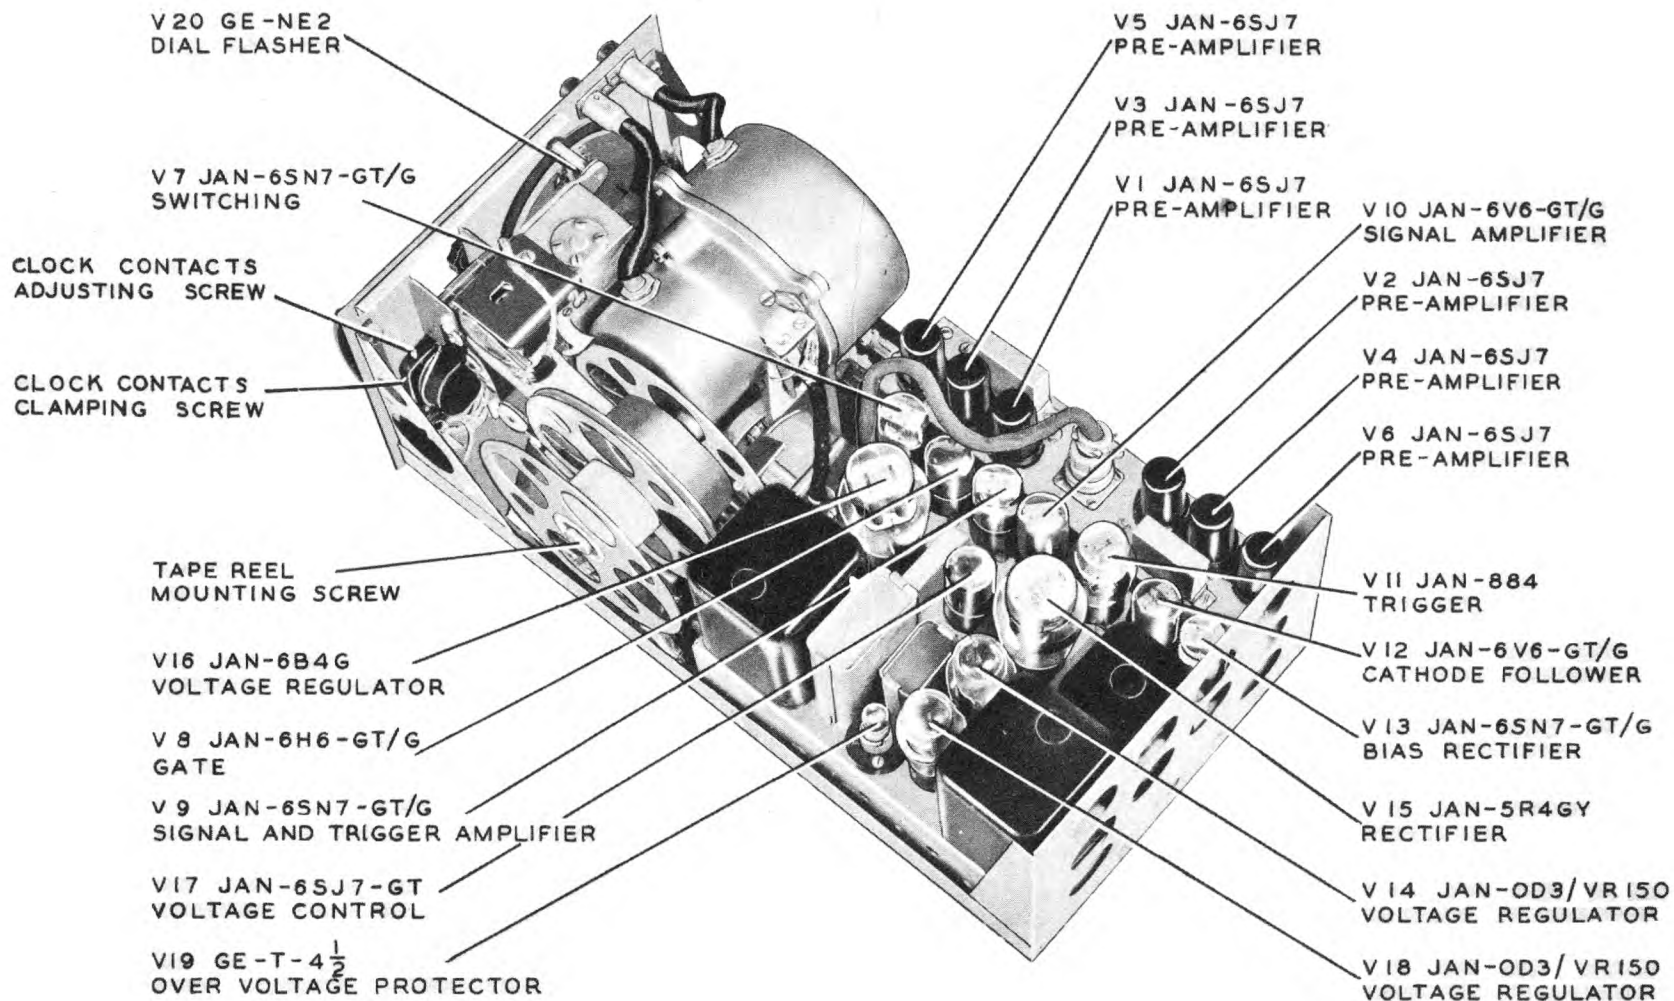

Figure 5-1. Radar Receiver R-34/APR-2—Top View with Dust Cover Removed
(1) Faulty cable connection between tuner and preamplifier. (See figs. 5-1, 5-2, and 5-3.)
(2) Microphonic tubes in that particular preamplifier channel.
(See figures 5-1 to 5-4.)
c. Loosen the clamping screw on the right side of the clock (accessible behind the panel, see fig. 5-1).
d. Turn the adjusting screw on top of the clock until a mark is made on the tape for the desired length of time, generally one-half minute. This screw is also accessible behind the panel (see fig. 5-1). Turn the screw to the right (clockwise) to decrease the length of the mark.